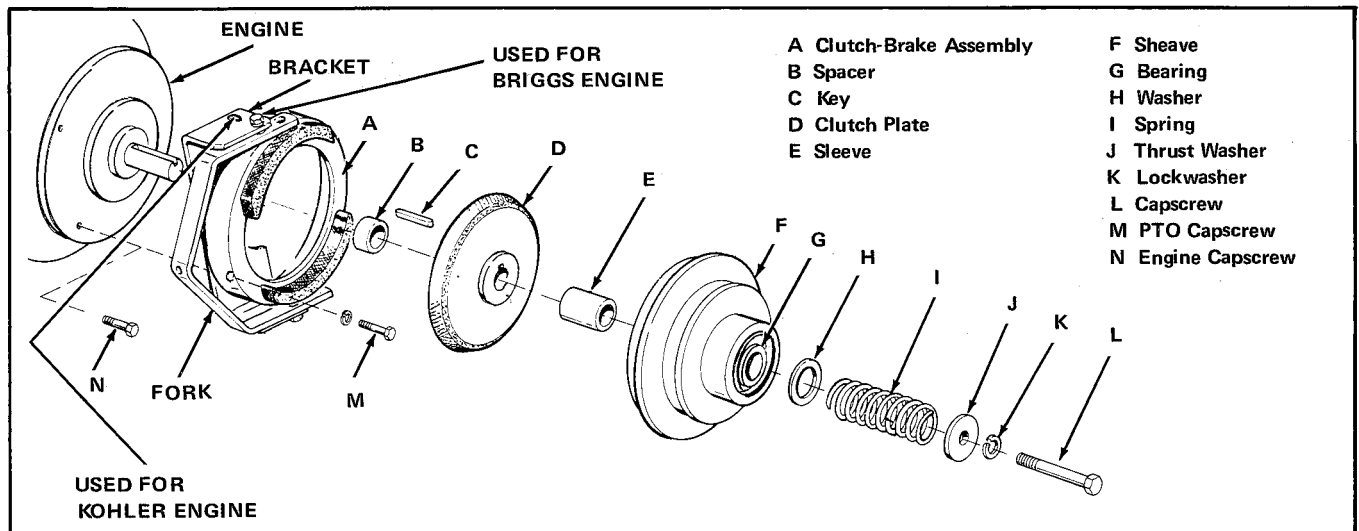

Figure 21. Install Clutch-Brake on Tractor Engine Shaft
3. The main PTO parts (figure 21) are fastened together for shipping. Remove and discard the nut and capscrow that passes through the center of the parts.
4. Remove two capscrows (item N, figure 21) from Briggs & Stratton engines. These will not be used again and can be discarded. Kohler engines do not have capscrows installed in these holes.